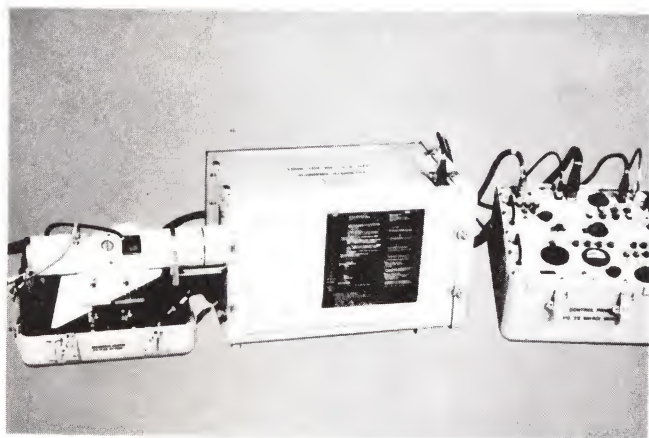

Figure 6-1. Mk 401 Test Set.
The Mk 401 test set, figure 6-1, for the Mk 12 comes in three sections--the control unit, the anechoic chamber, and the mechanical adapter. Condensed operating instructions are mounted on the side of the anechoic chamber. Instructions on the use and maintenance of the test set are given in the handbook listed as item 5, paragraph 1-12.